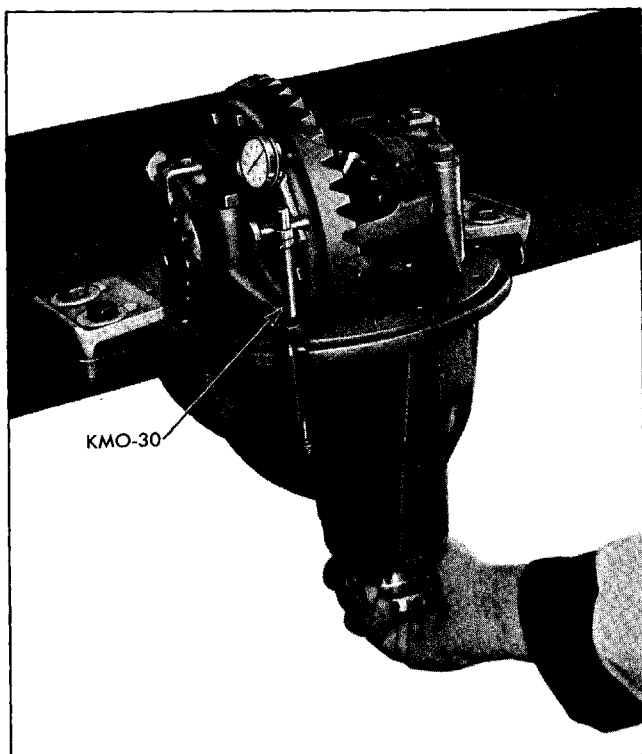

Fig. 4-15 Checking Ring Gear Run-out With KMO-30 Set
5. Check ring gear runout using dial indicator on backside of ring gear (Fig. 4-15). Runout should not exceed .002". Excessive runout could be the result of: warped ring gear or mounting flange on case, worn side bearings, misaligned carrier cross-bore, or burrs on case mounting flange or side bearing hubs.